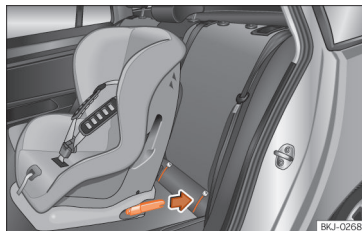

Fig. 36 Rear seats: fitting a child seat with the ISOFIX system.
- Press the child seat onto the ISOFIX or iSize securing rings until it is heard to engage securely »» **Fig. 36**. If the child seat is equipped with Top Tether anchor points, secure it to the correspondent ring »» **page 59**. Follow the child seat manufacturer's instructions.